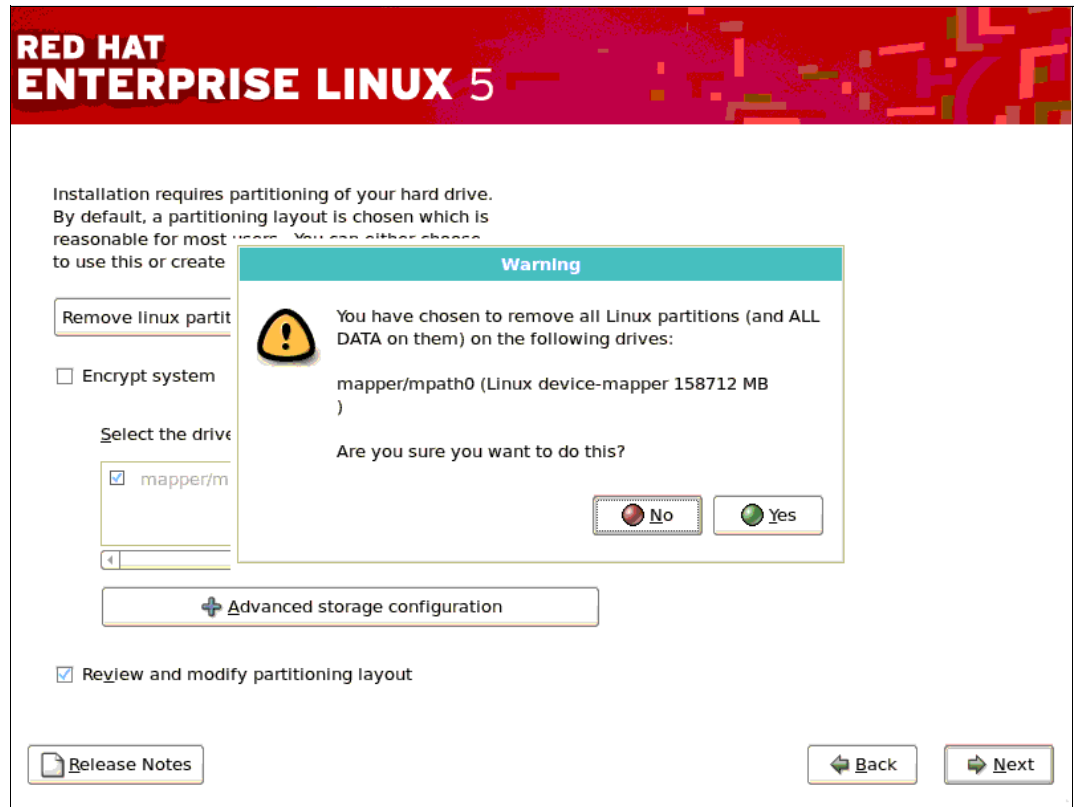

Figure 6-48 Partitioning Layout
- The installer now tries to initialize the disk. Because it is a newly created logical drive that has no partition table yet, we get a warning, as shown in Figure 6-48, to initialize the disk. Click **Yes** to erase all existing data on the logical volume and to proceed with the installation, as shown in Figure 6-48.